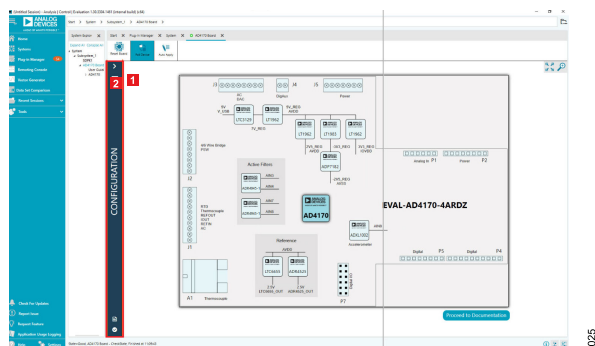

Figure 25. ACE Plug-In Configuration
1. Double-click the **AD4190 Board** icon to open the **AD4190 Board** view window. **CONFIGURATION** is on the left, either as shown in Figure 25 (Label 1) or already expanded. To expand **CONFIGURATION**, click the arrow (Label 2, Figure 25).